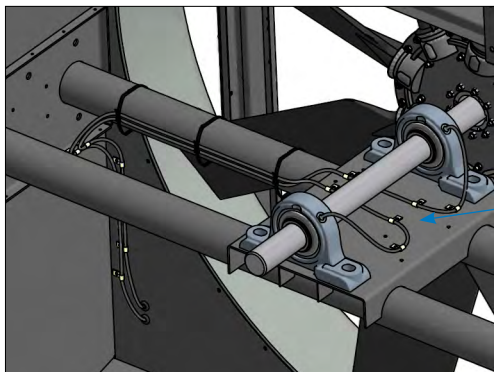

Figure 14. Accelerometer Location - Belt Drive
- Attach the accelerometer (provided by others) onto the box beam as shown in **Figure 14**. The accelerometer should be placed on the top of the bearing support channel, near the fan side bearing, as shown.